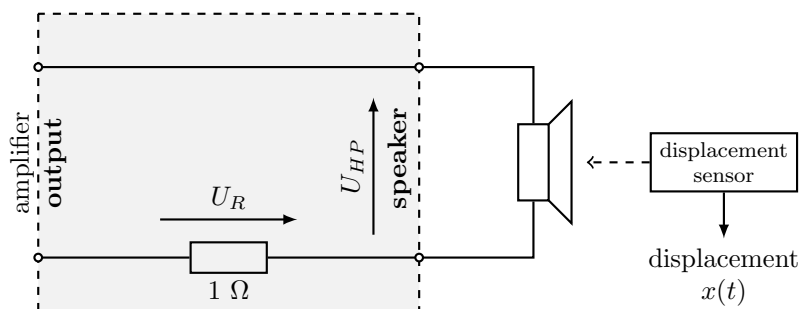

Fig. 1: Block diagram of the experimental setup for the loudspeaker measurement.
- Set up the measurement according to the schematic in Fig. 1. Note that this setup is the same as in the previous experiment (Work 1).